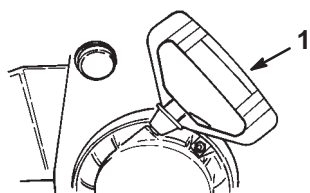

Figure 22
- **Recoil Starter** (Fig. 22)—The recoil starter is on the back side of the engine. Pull the recoil starter to start the engine.
8. Grasp the recoil starter handle (Fig. 22) and pull it out slowly until positive engagement results; then pull the handle vigorously to start the engine.